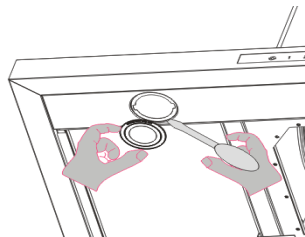

Fig. 9.1
Light replacement (Fig. 9.1, 9.2)
- o Push out the light assembly using a small straight screwdriver as illustrated in (Fig.9.1)